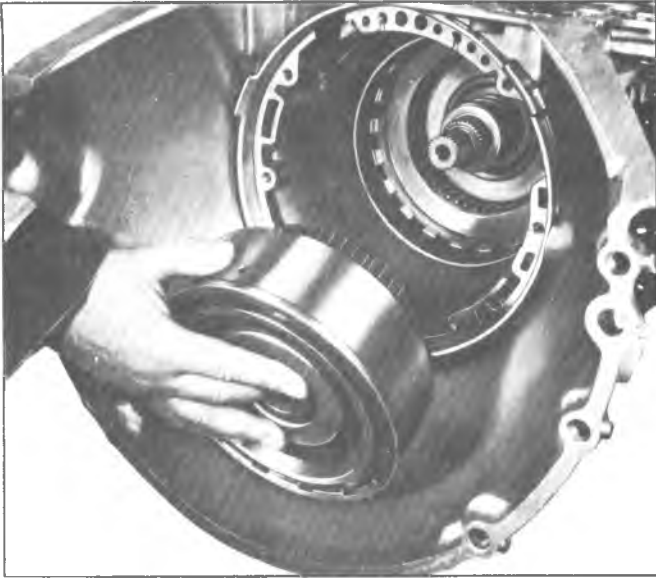

Fig. 136T--Installing Direct Clutch Assembly
- 17. With converter end of transmission up, carefully install direct clutch and intermediate roller assembly. It will be necessary to shake and slightly twist housing to allow roller outer race to index with composition plates. Housing hub will bottom on sun gear shaft (fig. 136T).